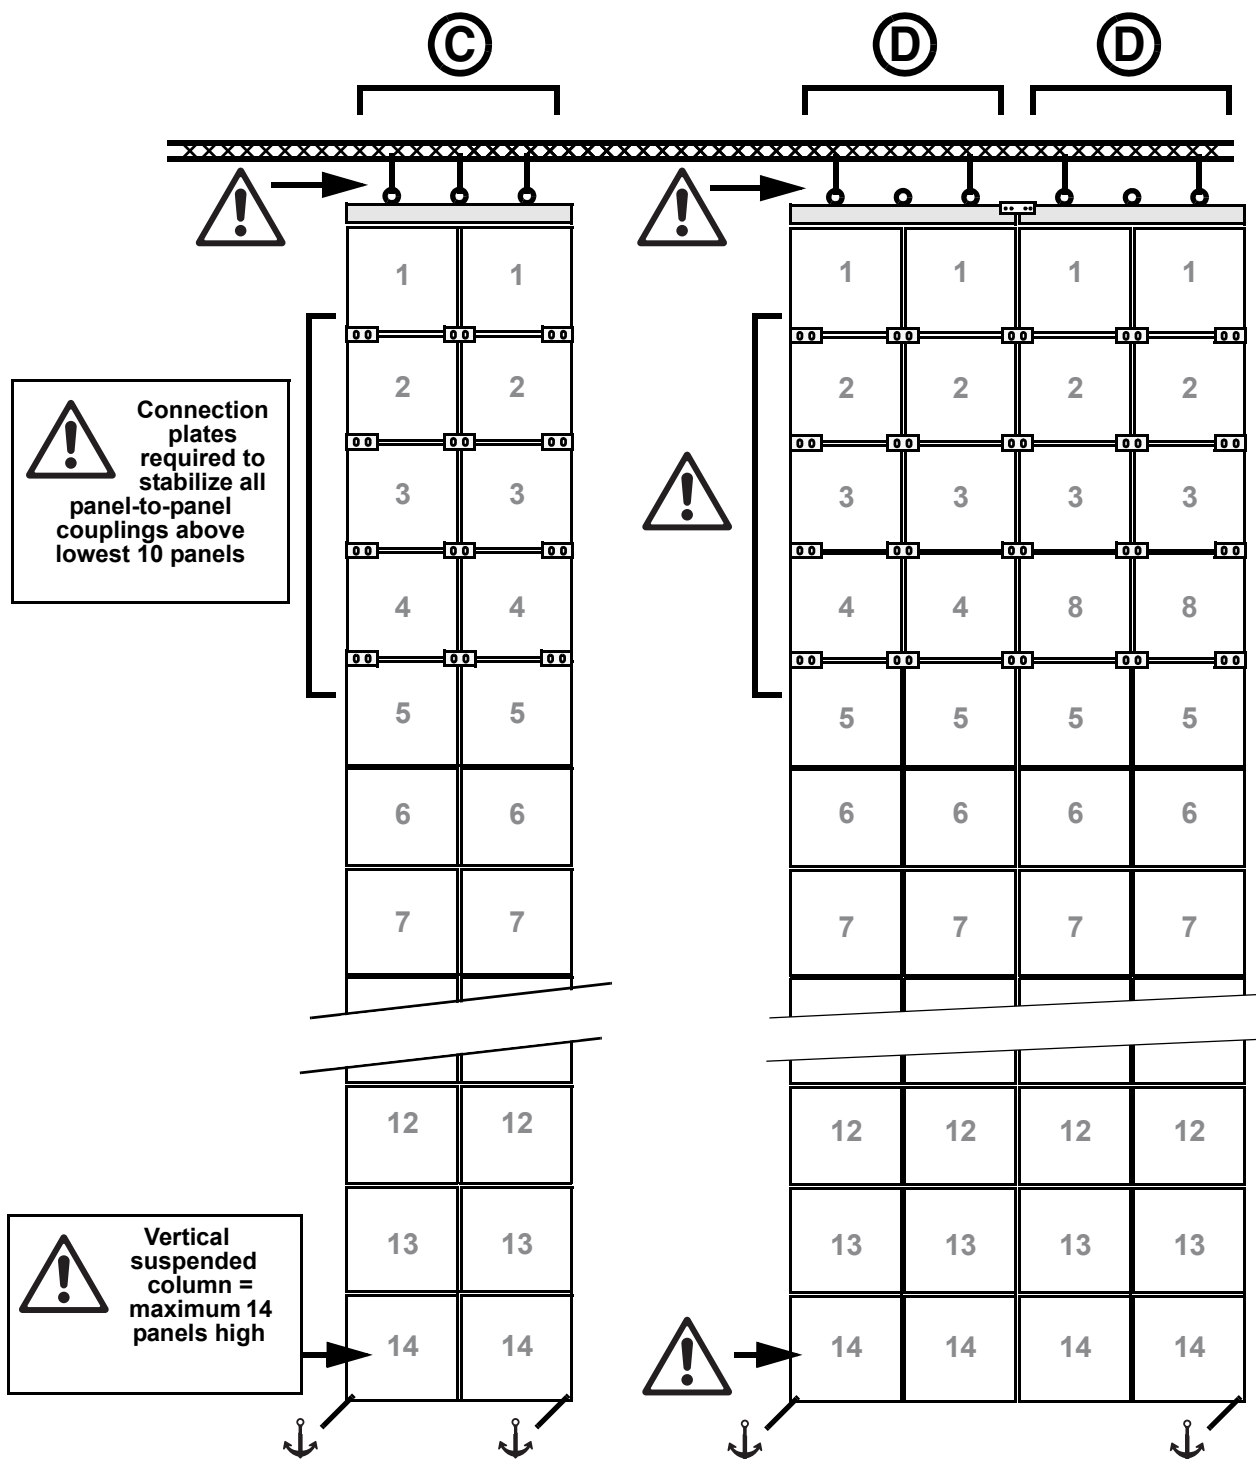
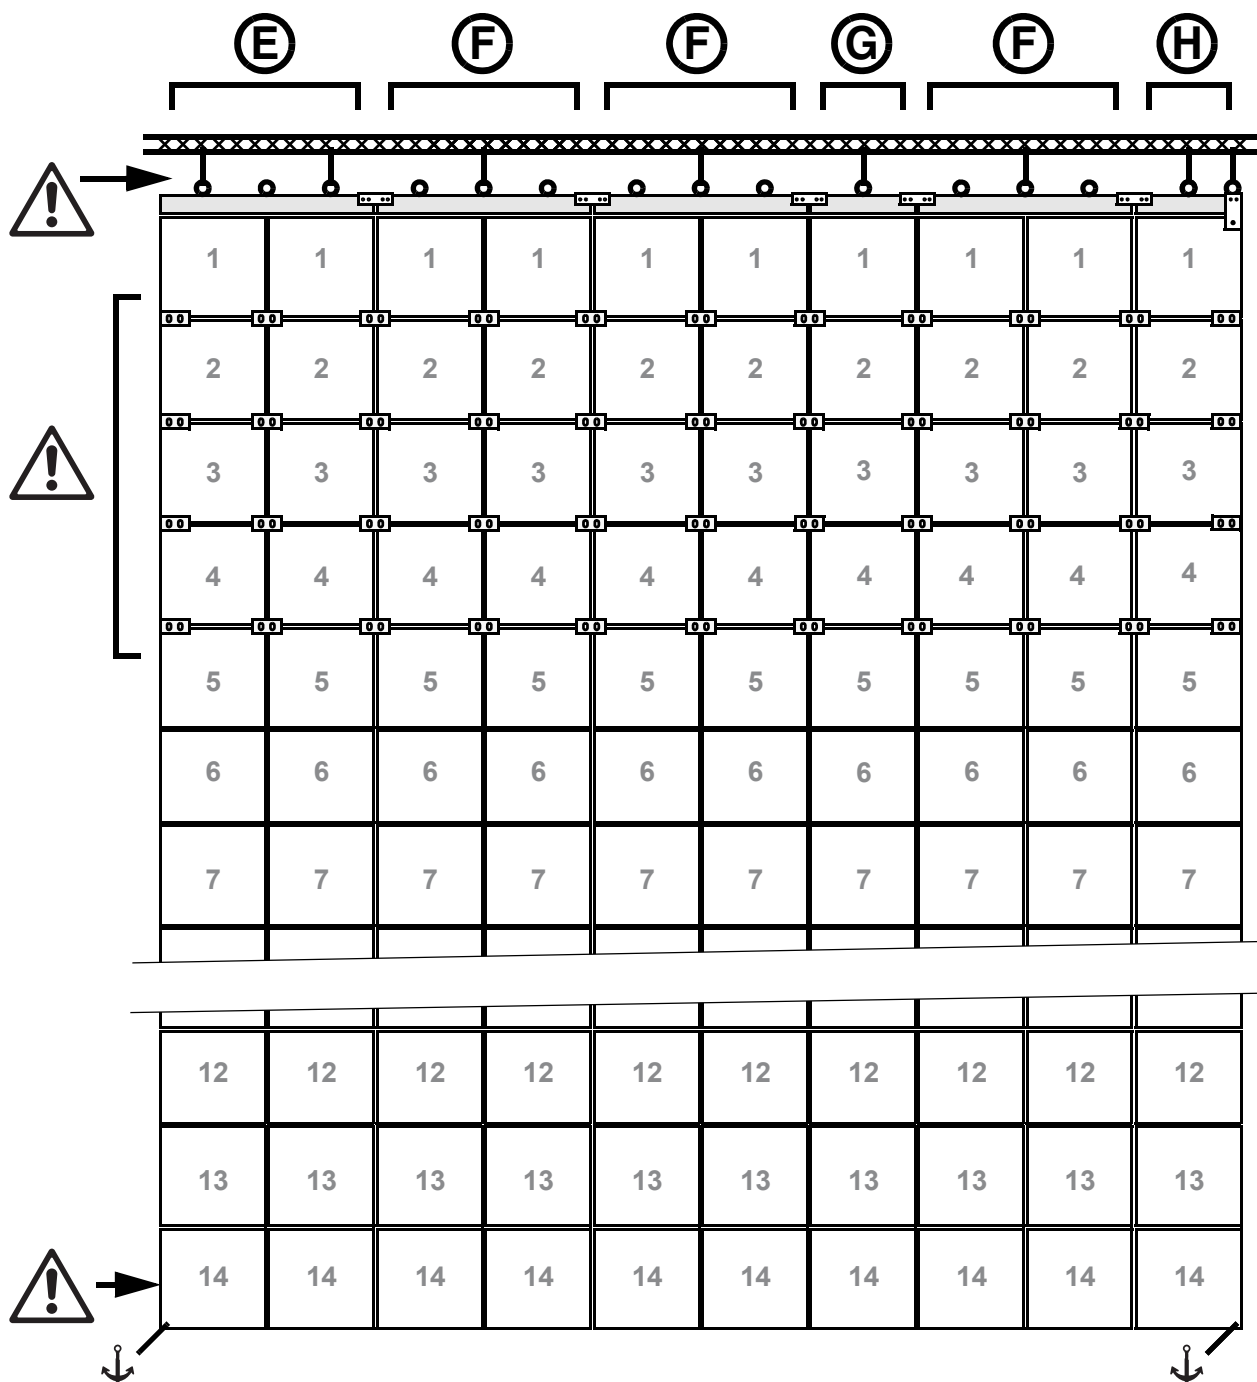

Figure 24: Two-column and four-column configurations
Figure 25: Larger multiple-column configurations
In an installation consisting of multiple columns hanging side by side that are fastened to each other using their integral side-to-side fasteners, in any column that is more than ten (10) panels high, corner connection plates must be installed at all times on all four corners of every panel that is above the ten (10) lowest panels. See also Figure 24 on page 29 and Figure 25 on page 31.
- If you hang two columns of panels from a double header without fastening them side-to-side to other panels (see **C** in Figure 24), you must suspend the header using three cables or chains: one cable or chain per eyebolt on all three eyebolts on the double header.
- If you hang four columns of panels from two double headers without fastening the four-column array side-to-side to other panels (see **D** in Figure 24), you must suspend the double headers using minimum four cables or chains: one cable or chain per eyebolt on minimum two eyebolts per double header.
- If you want to add a single column of panels that is not fastened to other panels at **both** sides (as in **H** in Figure 25), you must obtain a single header and install on it an additional eyebolt available from Martin®. Then you must suspend the single header from two cables or chains before you hang the single column from it.
1. See Figure 24. Obtain enough headers for all the columns, and obtain enough corner connection plates available from Martin® to stabilize the column. You will need two connection plates for each panel above the lowest 10 panels.
- Each header in the middle of a multiple-column array (see **F** and **G** in Figure 25) must be suspended from minimum one cable or chain.
- Each header at the edge of a multiple-column array (see **E** and **H** in Figure 25) must be suspended from minimum two cables or chains:
- If you install a *double* header at the edge of a multiple array (see **E** in Figure 25), you must use minimum two of the header's three eyebolts so that you can suspend the header from two cables or chains.
- If you install a *single* header at the edge of a multiple array (see **H** in Figure 25), you must install one additional eyebolt so that you can suspend the header from two cables or chains.
1. See Figure 25. Obtain enough single or double headers for all the columns, and obtain enough corner connection plates available from Martin® to stabilize the column. You will need two connection plates for each panel above the lowest 10 panels.